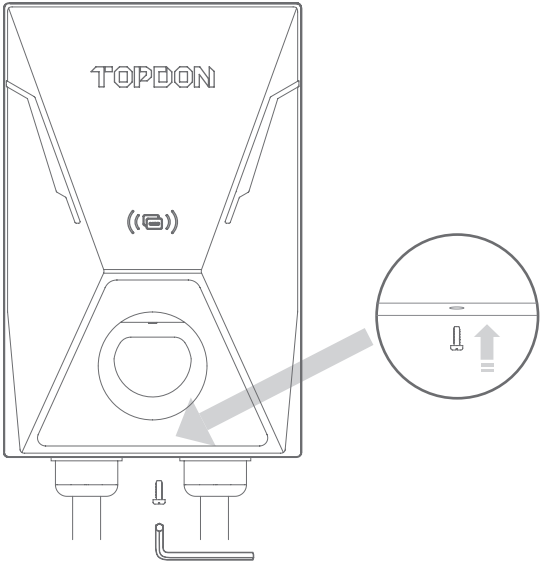

Fig. 5-15
7. Install back the hexagon socket head screw to fix the charger to the wall bracket. (See Fig. 5-15)